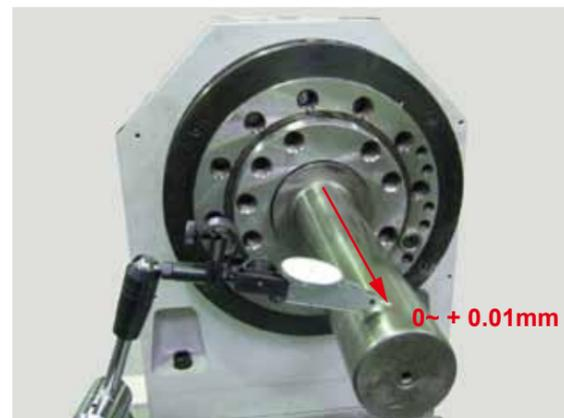

Fig.5
4) Apply the stylus of the indicator to the vertical plane of the test bar. Move the carriage along Z-axis and measure the maximal difference. (see Fig. 5)